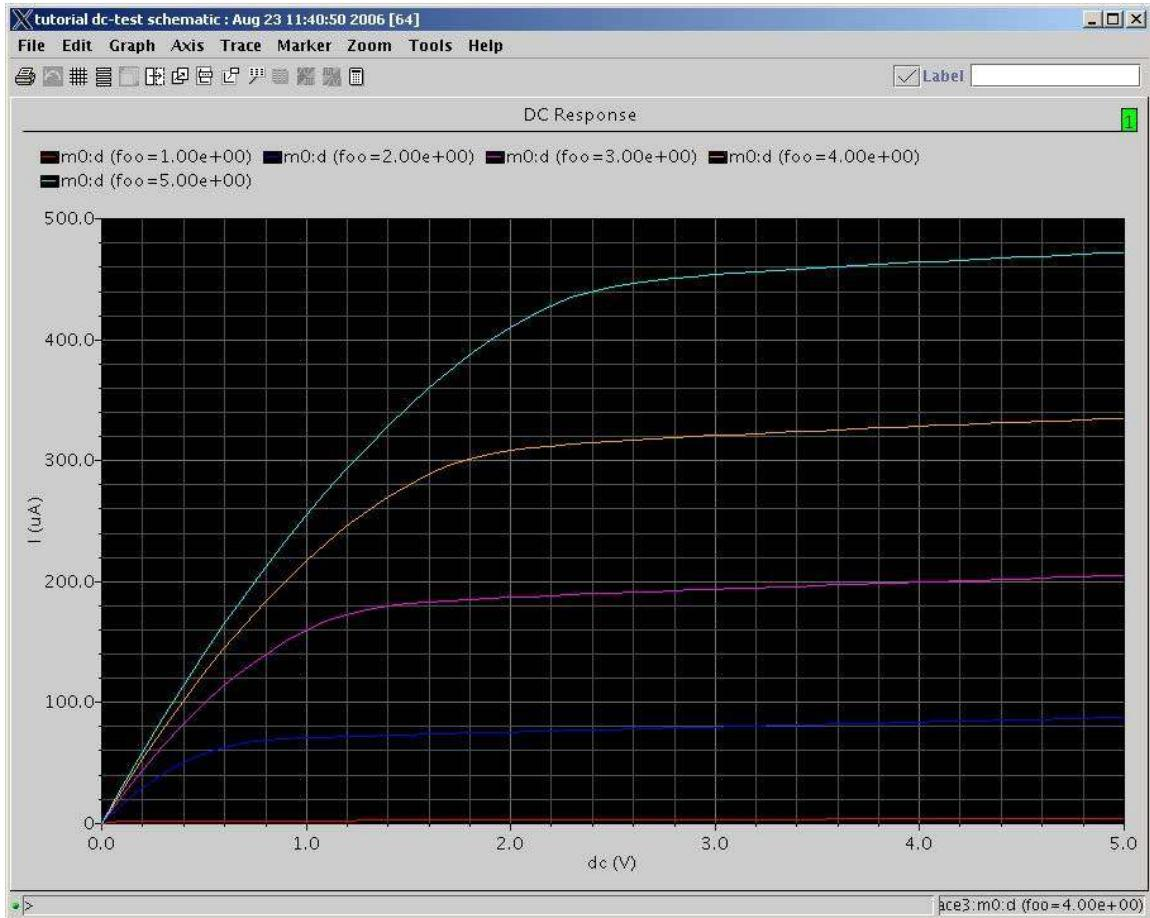

Figure 6.34: Output of parametric DC simulation with five curves
7. Now choose **Analysis->Start** and all five simulations will run, and the results will be plotted in a single waveform window. The result looks like Figure 6.34. Note that the parameters that were used on each run (the value of **foo** in this case) are shown in the legend at the top of the graph.